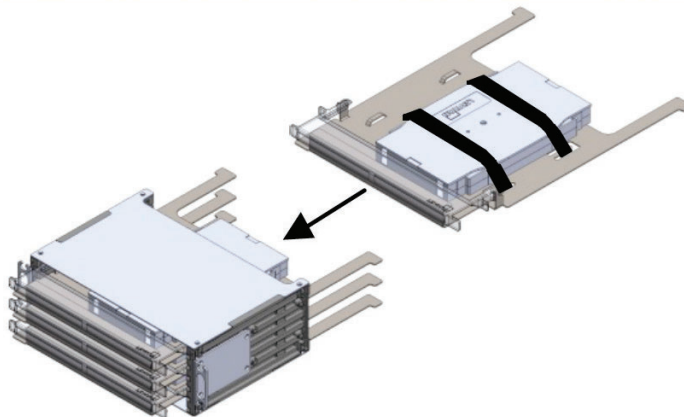

Figure 16
- 5.6.3 Slide each tray forward until the label window mounting tabs are accessible (Figure 16).